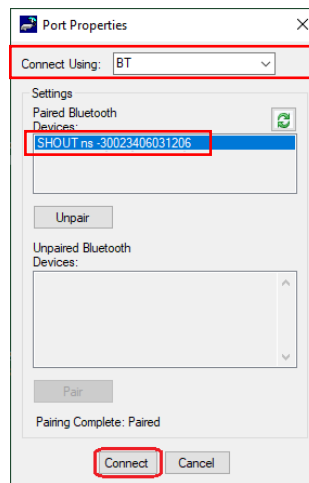

Figure 11: Port Properties
4. Select **BT** from the *Connect Using* drop down list (see **Figure 11**).
5. Select **SHOUT ns** from the *Settings Paired Bluetooth Devices* list (see **Figure 11**).
6. Select **Connect** (see **Figure 11**).